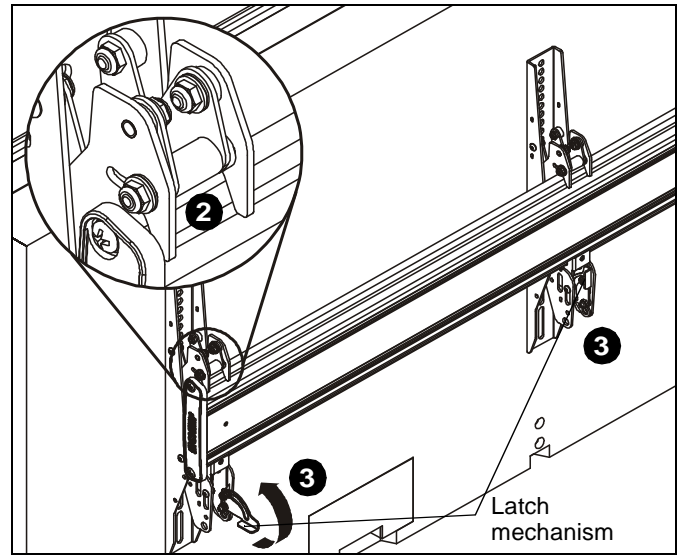

Figure 8
- While supporting both sides of display, lower display onto one side of ceiling mount, hooking top of interface brackets onto rail of ceiling mount. (See Figure 8)
- Raise the latch mechanism on both interface brackets to lock display in place. (See Figure 8)